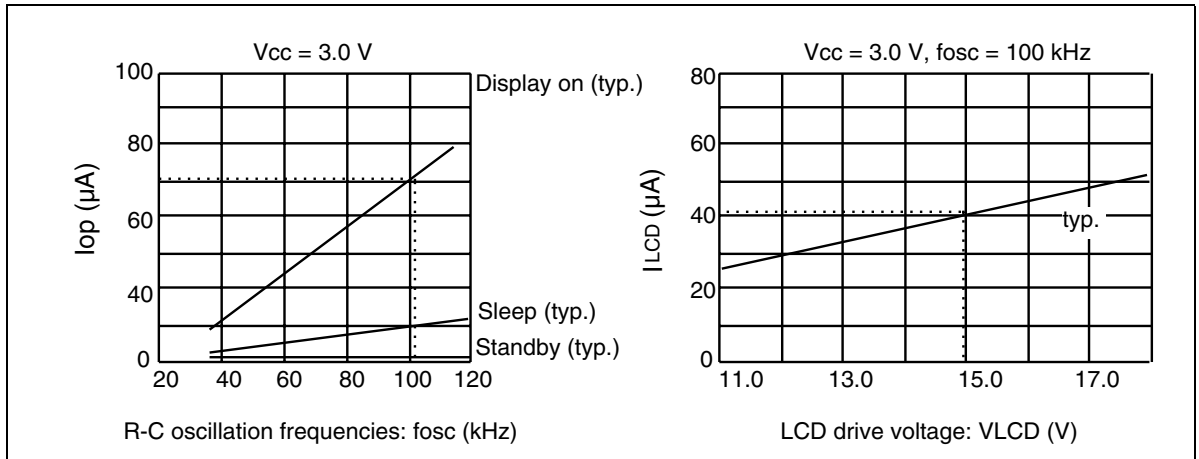

Figure 54 Relationship between the Operation Frequency and Current Consumption
7. The following shows the relationship between the operation frequency (fosc) and current consumption (Icc) (figure 54).